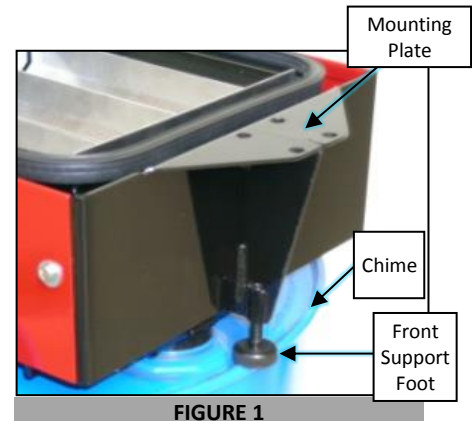

FIGURE 1
3. Place the operating handle on the mounting plate so that the holes are aligned. Insert one bolt (with washer) through each hole. Loosely install one locking nut onto each bolt, but do not tighten yet. (Figure 1)